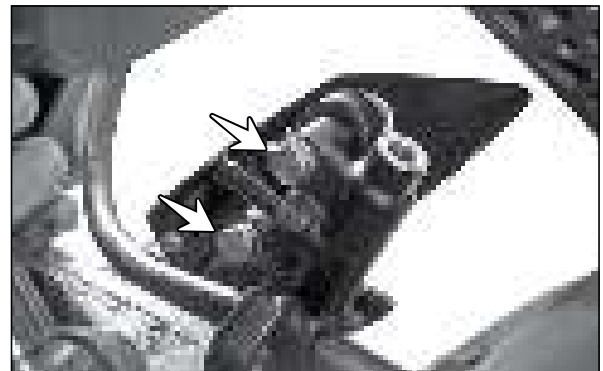

Fig. 6.130
- Remove the hexagonal screws (M6x40 - 2 Nos.) along with punched washers. (Fig. 6.130)